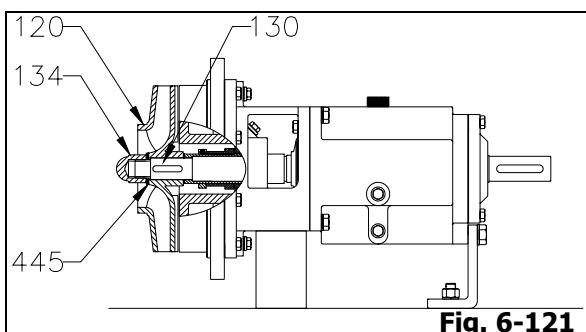

Fig. 6-121
2. Install impeller (120) to shaft (130).
3. Install impeller nut gasket (445) and impeller nut (134) to shaft (130) by turning impeller nut (134) clockwise (viewed from the impeller end of the shaft) by hand until it is tightened (Fig. 6-121).